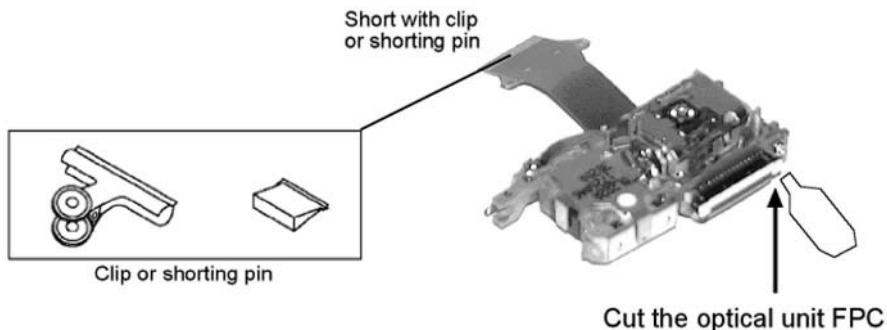
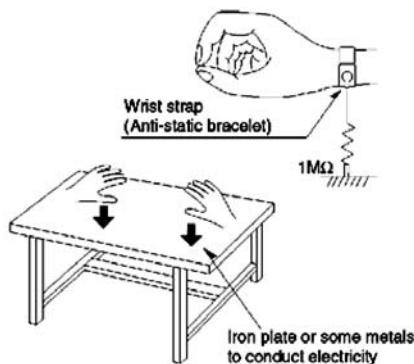

Fig. 8.1
Fig. 8.2
2. Short-circuit the flexible cable of optical pickup remove from the circuit board using a short-circuit pin or clip in order to prevent laser diode from electrostatic destruction (Refer to Fig. 8.1 and Fig. 8.2)
3. Do not handle flexible cables forcibly as this may cause snapping. Handle the parts carefully (Refer to Fig. 8.1)
4. A new optical pickup is equipped with an anti-static flexible cable. After replacing and connecting to the flexible board, cut the anti-static flexible cable. (Refer to Fig. 8.1)
Use the anti-static wrist strap to discharge the static electricity accumulated in your body. (Refer to Fig. 8.2)
Place a conductive material (conductive sheet) or iron board where optical pickup is placed. (Refer to Fig. 8.2)